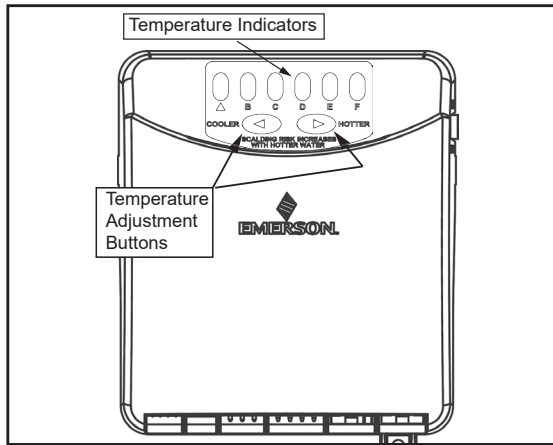

Figure 30. Adjusting the Thermostat
installation of the valves. Before you change the factory setting on the thermostat, in this manual, see *Figure 30* (page 33).
1. "Wake Up" the temperature indicators by holding down both "COOLER" and "HOTTER" temperature adjustment buttons at the same time for one second. See *Figure 30*. One or two of the temperature indicators will light up. These indicators will only remain on for 30 seconds if no further buttons are pressed. After 30 seconds the control will go back to "Sleep" mode.